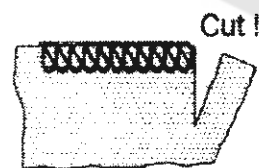

Fig. 2
NOTE: When overlocking and trimming at the same time, cut the fabric along the new stitching line for about 3 cm, before turning the fabric. Fig. 2.
3. Insert the cord through either the front or rear hole (according to the operation, see diagrams Figures 2 and 3), in the presser foot and pass it under and to the rear of the foot.
FOR JOINING SHOULDERS OR SLEEVES, pass the cord through the front hole, ensuring that it is fixed between the left and right needle threads as it is guided through the front hole. (Fig.2).